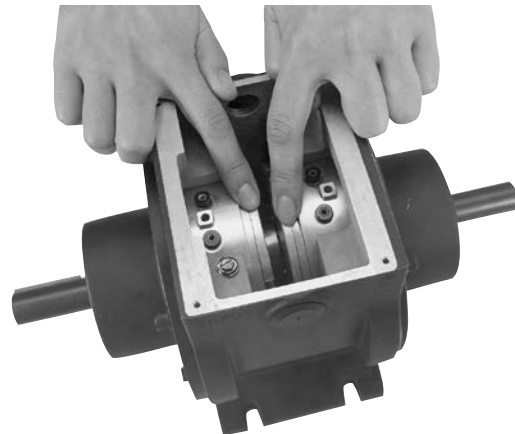

Figure 6
11. Set the autogaps by pressing each armature into contact with its mating component (either the magnet or rotor) and then releasing it. (Figure 6)